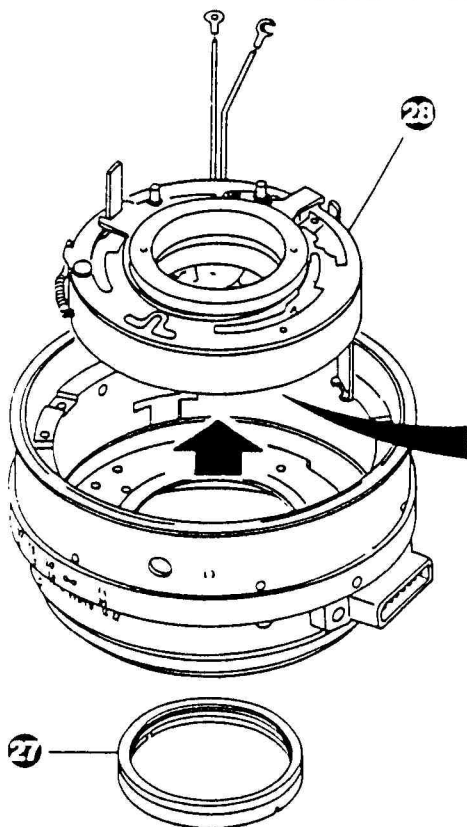

Fig. 9
5. Remove the fixing ring (27), and take out the shutter ass'y (28) upward. (See Fig. 9.)